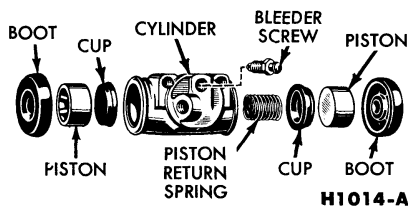

FIG. 22 Double Servo Brake Cylinder
1. With the wheel cylinder removed, remove the rubber boots from the ends of the brake cylinder. Remove the piston(s), cups, and piston return spring from the cylinder (Fig. 22).
2. Install the bleeder screw (Fig. 22) in the brake cylinder.